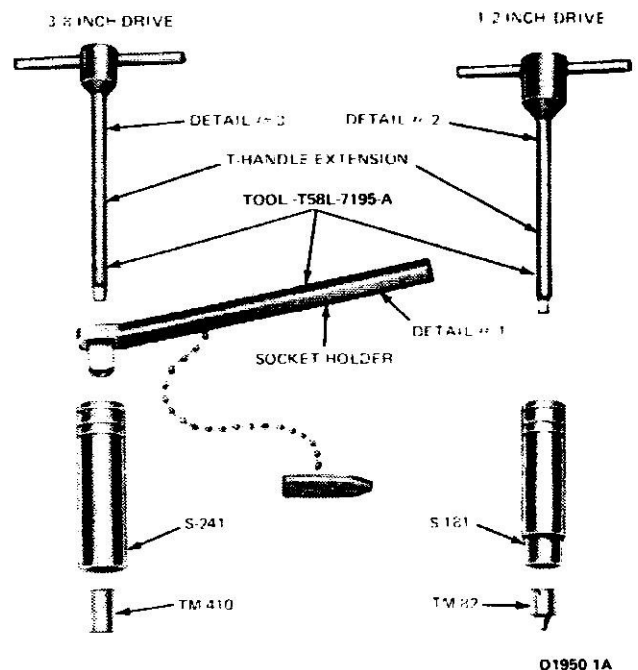

FIG. 5 Front Band Adjusting Tools
4. Pull the adjusting screw end of the actuating lever away from the servo body, and insert the 1/4-inch spacer (Fig. 5) between the servo piston stem and the adjusting screw.
5. Install the socket handle on the 9/16 inch socket (Fig. 5).
6. Insert the T-handle extension through the socket handle and socket, and install the screwdriver socket on the T-handle extension (Fig. 5).
7. Place the tool on the adjusting screw so that the screwdriver socket engages the screw and the 9/16-inch socket engages the lock nut (Fig. 5).